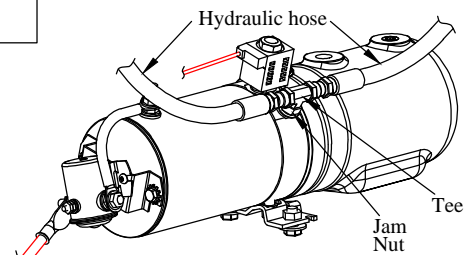

Figure 10: Connect the hydraulic hose.
10. **CONNECT** the hydraulic hose to the tee on the power unit housing (Figure 10).